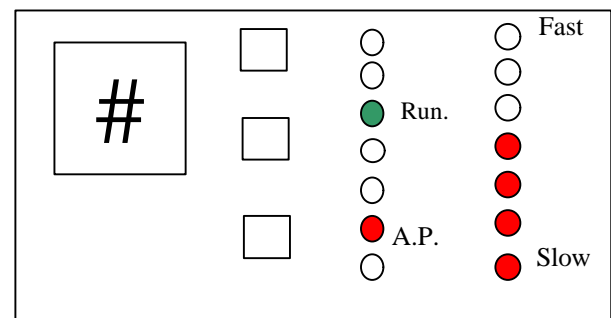

Figure 9
2. While in the RUN mode, the bar graph on the right side of the controller will illuminate, indicating the selected turntable speed. Also, if "1" was chosen for the A.P. mode, the lamp next to A.P. will remain lit during the RUN mode (Figure 9).